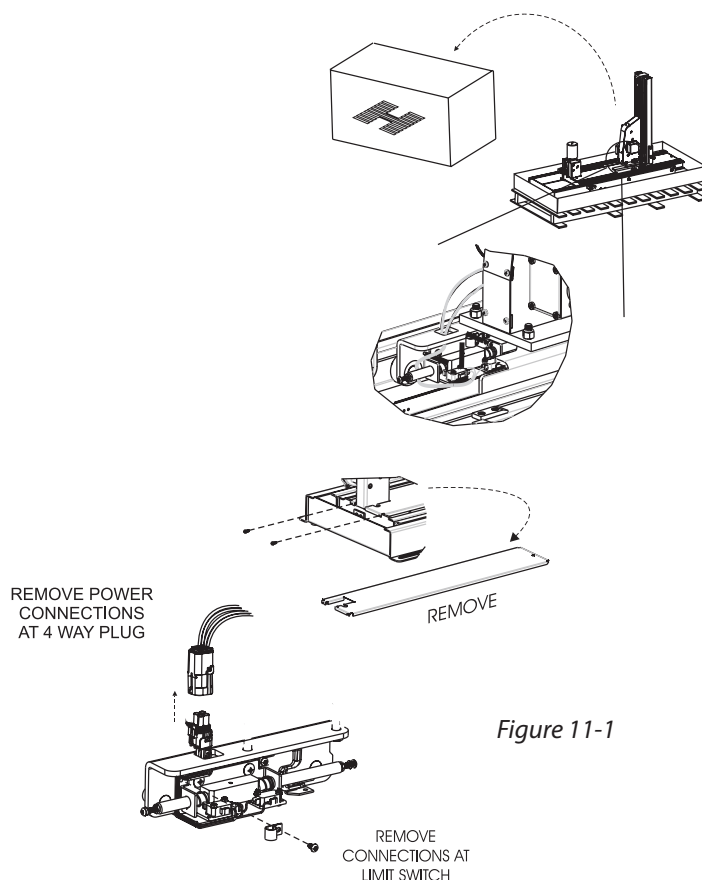
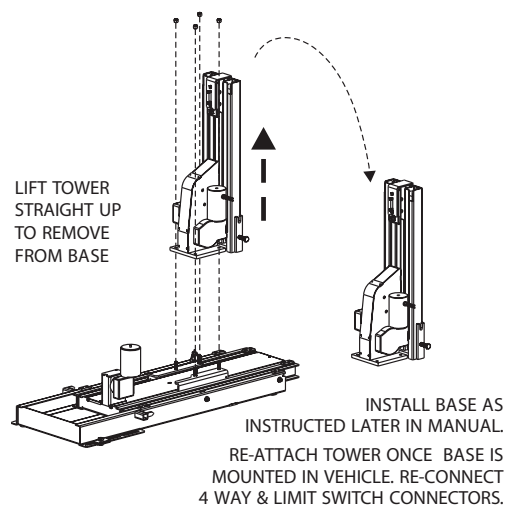

Figure 11-1
Figure 11-3
- Remove connections at limit switch [Figure 11-3] and remove power connections at 4-way plug. [Figure 11-1]
- Lift tower straight up to remove from base. [Figure 11-3]